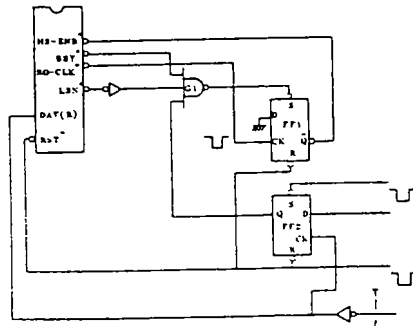

Figure 9 Listener circuit example
- Figure 9 shows a data reception circuit, and Figure 10 its timing chart.